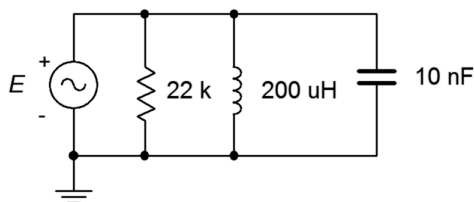

Figure 8.8
22. Given the circuit shown in Figure 8.8, determine the resonant frequency, system Q and bandwidth. If the source is 2 volts, determine the resistor, inductor and capacitor currents at resonance. Assume the inductor's coil resistance is 2.5Ω .